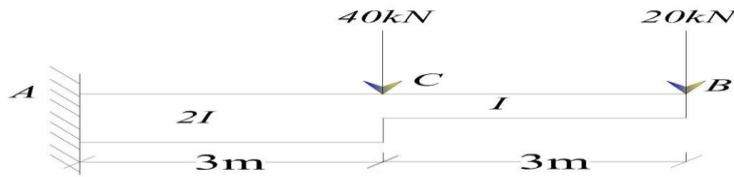

Fig. 3 (b)
b. Find the slope and deflection at the free end of cantilever beam shown in Fig. 3(b) by moment area method. **12** (2 :2 : 1.3.1)